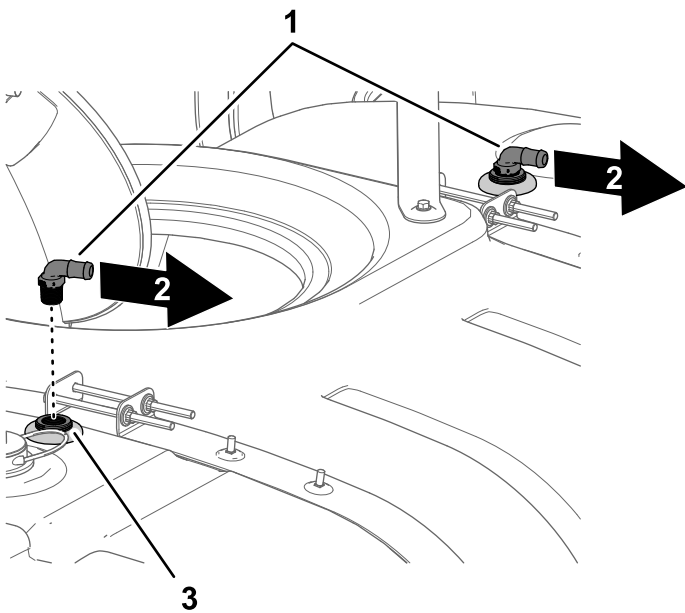

Figure 23
5. Install the 90° fittings into the bulkhead fittings of the rinse-nozzle assemblies (Figure 23).
6. Align the hose barb of the 90° fittings to the right side of the machine (Figure 23).